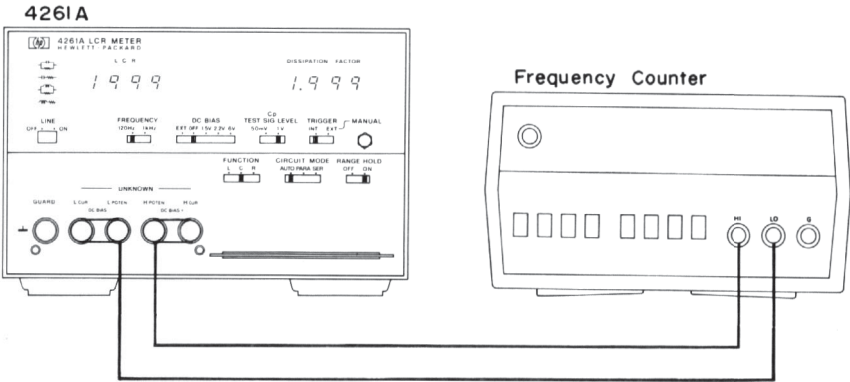

Figure 4-1. Measurement Frequency Test Setup.
1. Connect frequency counter to the 4261A UNKNOWN terminals as shown in Figure 4-1.